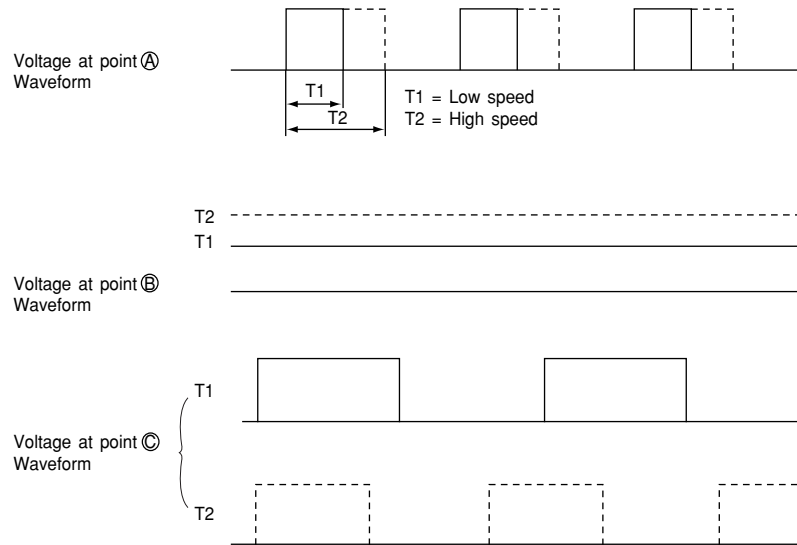

Fig. 7-2
- For the point (A), 15.7 kHz PWM pulse will be output from the pin 24 on the micro computer as shown in Fig. 7-2. The pulse range will vary with different command speed.